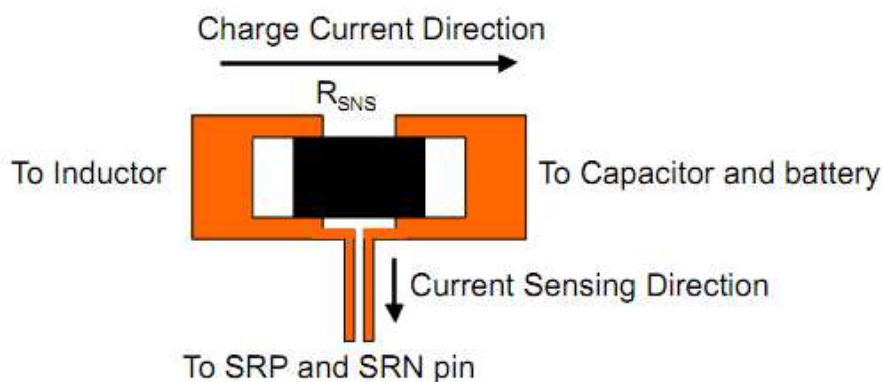

Figure 21. Sensing Resistor PCB Layout
4. The charging current sensing resistor should be placed right next to the inductor output. Route the sense leads connected across the sensing resistor back to the IC in same layer, close to each other (minimize loop area) and do not route the sense leads through a high-current path (see Figure 21 for Kelvin connection for best current accuracy). Place decoupling capacitor on these traces next to the IC.